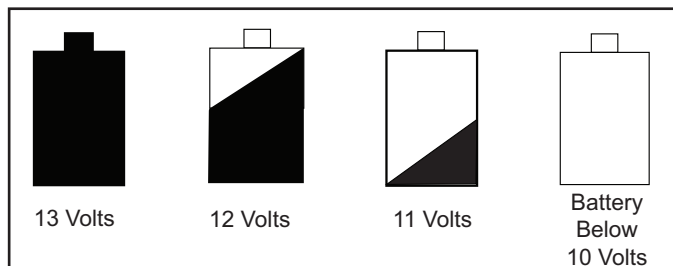

Figure 26.1
- If the battery charge falls below 10 volt it can no longer sustain the appliance operation and the appliance will shut down. **Figure 26.1.** You must disconnect and re-connect the battery to start it up again.